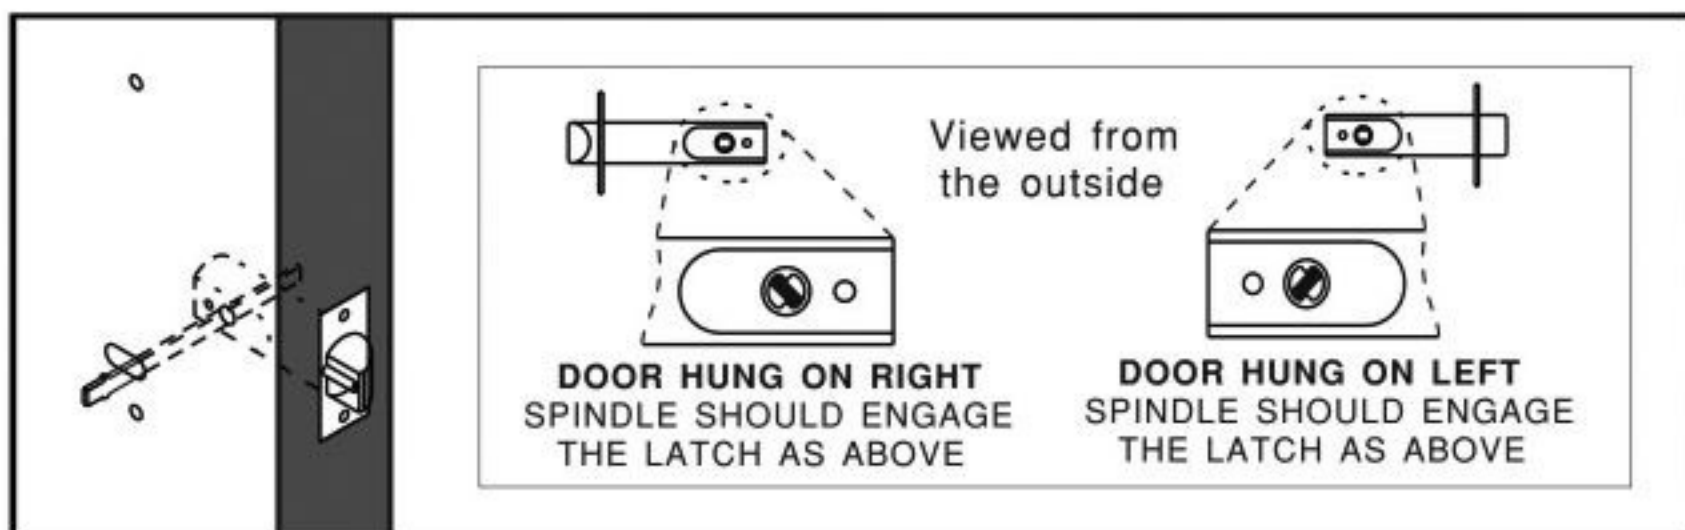

Figure 6
- Referring to Figure 6, stand facing the keypad side of the door, insert Part 8 (Spindle w/spring) with spring end first, into the latch opening and position the spindle in the opening as shown, depending on your door type. As you proceed with the installation ensure spindle remains in the proper position as shown for your door type. Step 5 is for Left-hung doors ONLY.